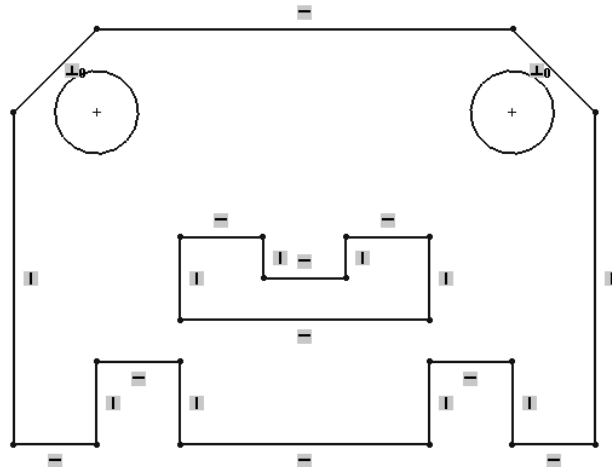

Figure 2-70 Final sketch for Tutorial 4
12. Choose the **Zoom to Fit** button from the **Heads-up View** toolbar to fit the display of the sketch on the screen. The final sketch for Tutorial 4 is shown in Figure 2-70.